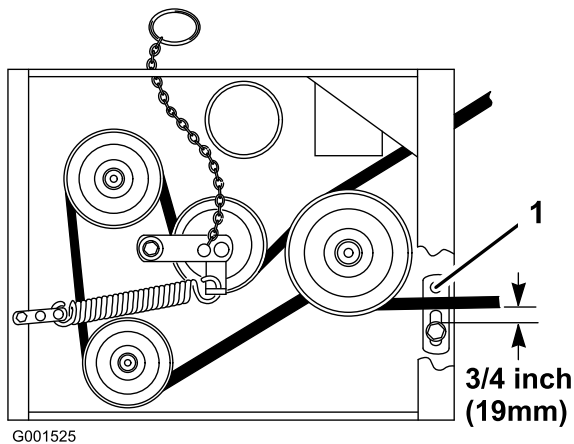

Figure 41
8. Check the belt guide under the engine frame for proper adjustment (Figure 41).
Note: The distance between the belt guide and the mower belt should be $\frac{3}{4}$ inch (19 mm) when you engage the mower belt (Figure 41). Adjust the mower belt as necessary. The disengaged belt should not drag or fall off the pulley when the guides and belt tension are properly adjusted.